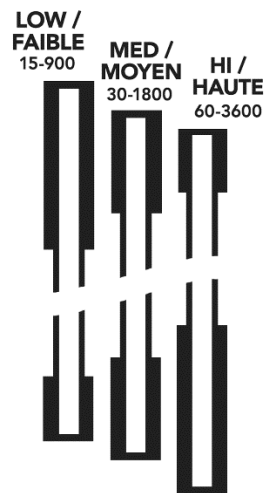

Figure 8-8
4. There should be sufficient slack in belt to reposition it to the other steps on the sheaves. The label on the access door shows the required belt position. A similar graphic is shown in Figure 8-8.